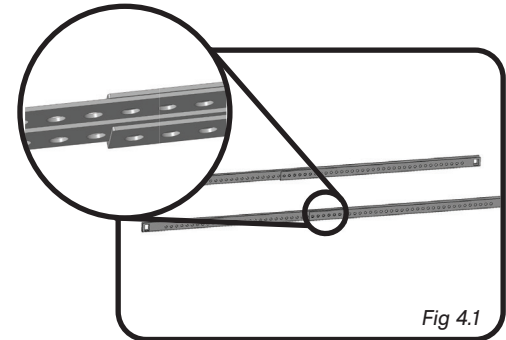

Fig 4.1
1. Find the four length adjusters. There are two wide length adjusters (A) and two narrow length adjusters (B).
2. Lay the two narrow length adjusters inside the two wide length adjusters with the square holes at opposite ends. Make sure the u-shape of the length adjusters opens upward. (fig 4.1)